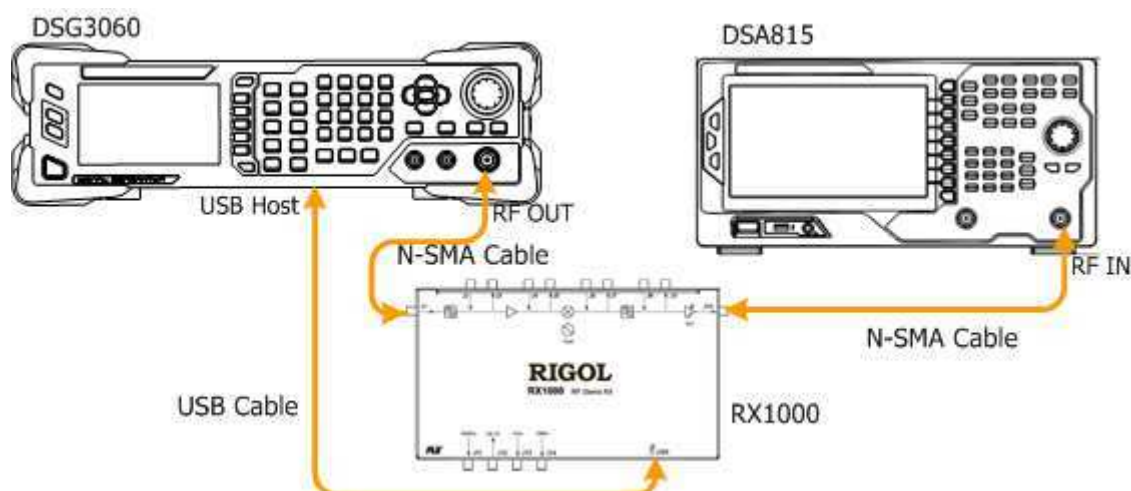

Figure 6 Test the frequency conversion function of the RX1000
1. Connect the DSG3000 series RF signal generator and RX1000 using USB cable; connect the J1 terminal of the RX1000 and the RF output interface of the DSG3000 using an N-SMA cable; connect the J10 terminal of the RX1000 and the RF input interface of the spectrum analyzer using another N-SMA cable as shown in Figure 6.